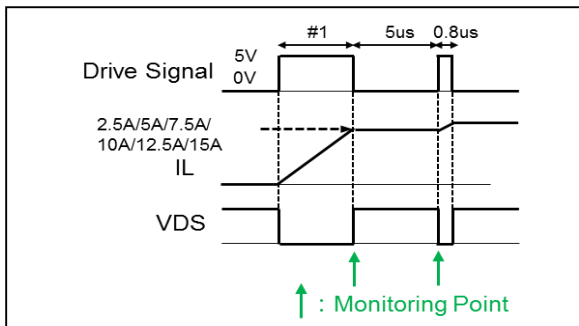
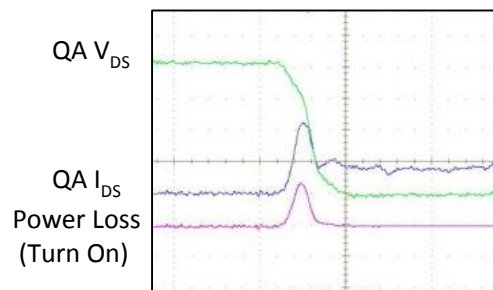

Figure 13: Double Pulse
Figure 16: Power Loss measurement waveform
- Set DC power ② to 5V. LED will glow to indicate EN (Si8275GB Enable pin) is high
- Adjust DC power ③ to 12V gradually.
- Check V_{GS} waveform when a double pulse is inputted from pulse generator. Ensure to carry out this step with DC power ① is set to 0V.
- Then, the voltage of DC power ① is gradually increased from 0V to predetermined voltage (400V). Monitor the V_{DS} voltage with oscilloscope and confirm that the V_{DS} voltage rises to the set value.
- Input a double pulse with the pulse generator again and check the V_{GS} , V_{DS} and IL waveform. Observation of waveform will be easier if the trigger is applied at the rising / falling edge of V_{GS} or V_{DS} as shown on Figure 13 above.
- Connect DC power ① to VPN and VS of the board with the screw terminal block.
- Use the math function on oscilloscope to find the multiplication of V_{DS} and I_{DS} , then use the measure function on the oscilloscope to find the area under the curve (power loss). See Figure 16.
- Set up the Dead time generator circuit with the amplitude 0-5V and having the double pulse profile as shown in the Figure 13.
- Set the DC power ② to 5V gradually. Set the DC power ③ to 12V gradually.
- Check V_{GS} waveform when a double pulse is inputted from pulse generator. Please carry out this step with DC power ① is set to 0V.
- Observation of waveform will be easier if the trigger is applied at the rising / falling edge of V_{GS} or V_{DS} as shown on Figure 16 above.